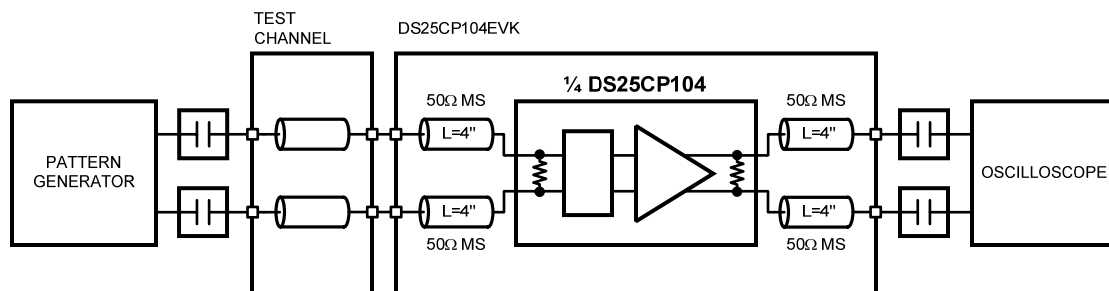

Figure 6. Equalization Performance Test Circuit
1. Configure the test setup as shown in Figure 6; select the desired test channel, lengths in Table 7.